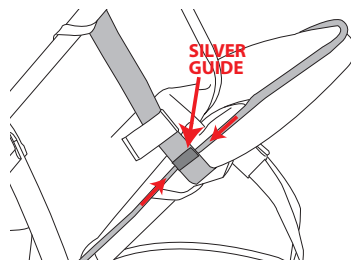

Figure 30
- Position the stroller seatback so the silver fabric guide on EACH side of the seatback support webbing is in line with the binding on the sides of the seatback. See Figure 30 & 31.